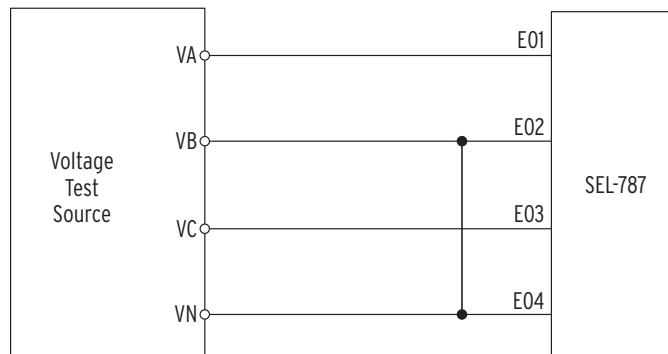

Figure 10.7 Delta Voltage Source Connections
- Step 2. Connect the voltage source to the relay, as shown in *Figure 10.7*. Make sure that DELTA_Y := DELTA.